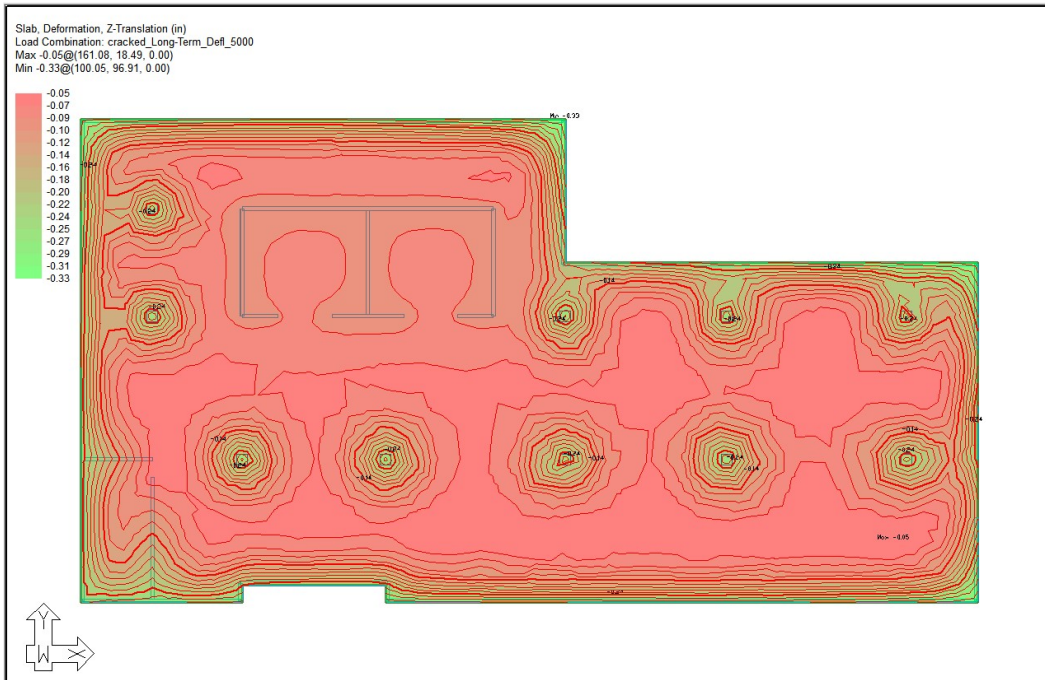

Figure 5.2-1
- In the *Analysis* tab tree, navigate to **Slabs | Deformation | Z-Translation** and check the box next to **Z-translation**. You should now see the deflection contour as shown in **Figure 5.2-1**.